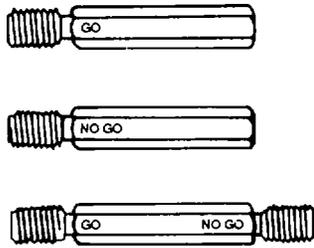

Figure 3-54. Plug Gauges
a. **Use.** GO and NO GO plug gauges are used to inspect internal threads. They are available as separate tools or with both ends combined in one tool, as shown in figure 3-54. Threads are inspected as follows:
- (1) GO gauge. For an internal thread to be accepted, the GO plug gauge must pass through the entire length of the thread.